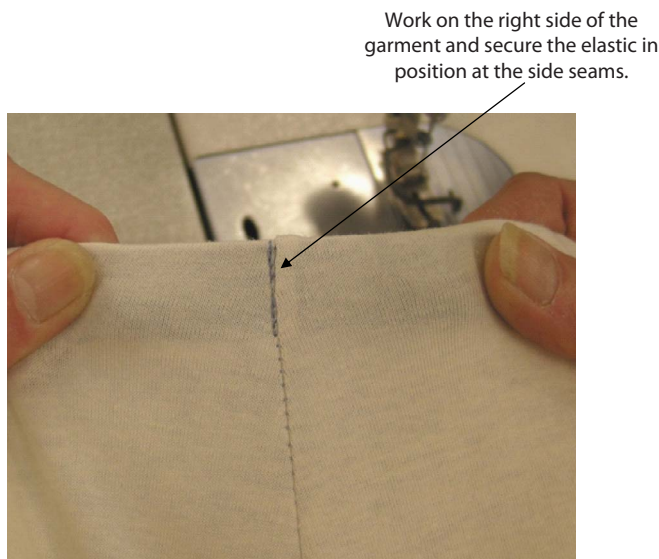

Figure 15
4. Stitch around the waist circumference using the Three Thread Overedge stitch (504), taking care not to cut into the elastic.
5. Turn the garment to the right side and secure elastic in the downward position, use the Lockstitch (301) to sink stitch the elastic in position at the side seams (see Figure 15).